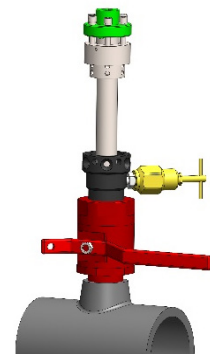

FIGURE 14
- b. With the Pressure Relief tool opened (handle turned CW), install the lower housing with the body, into the NPT adapter approximately 3.5". Twisting back and forth will help move it down. If it contacts the ball of the isolation ball valve, move it back up ½". See Fig 14